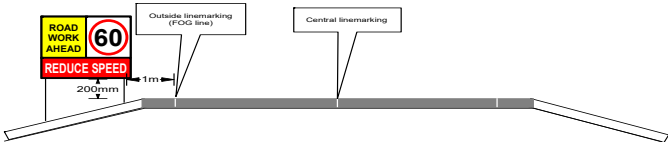

Figure 1 - example of sign positioning for short term (temporary) signage
7. Signage is to be placed 1 metre clear of the travelled path signage not to obstruct traffic or pedestrians or cyclists bike lanes. See Figure 1 and 2